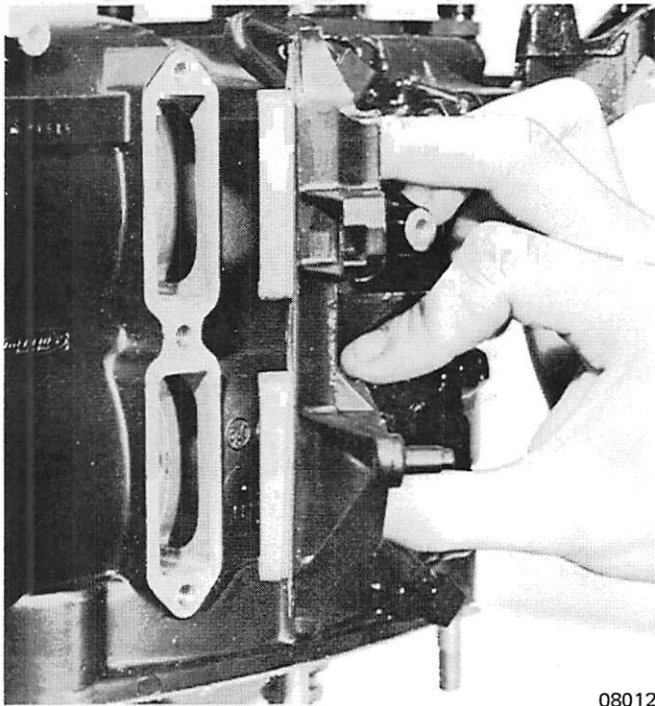

Figure 1. Removing Transfer Port Cover
1. Remove screws from transfer port cover, then remove cover. (Figure 1)